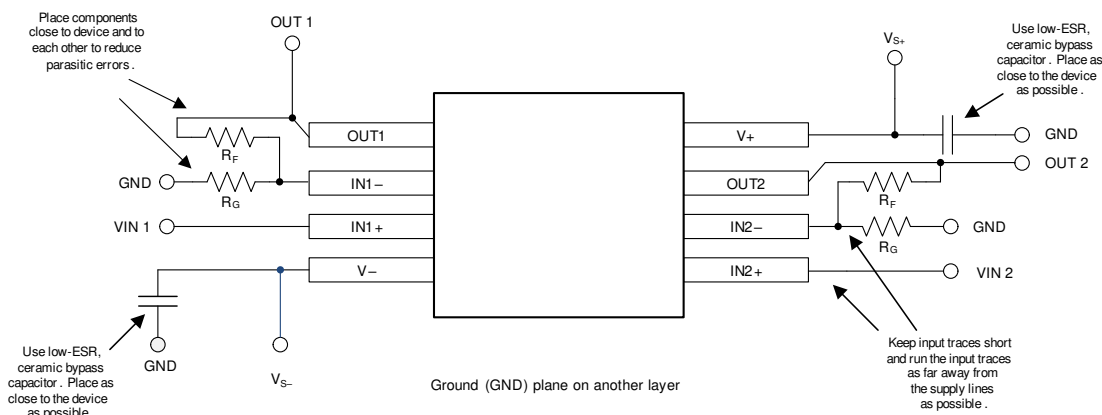

图 45. Layout Example
- Place the external components as close to the device as possible, as shown in Figure 45. Keeping R_F and R_G close to the inverting input minimizes parasitic capacitance.